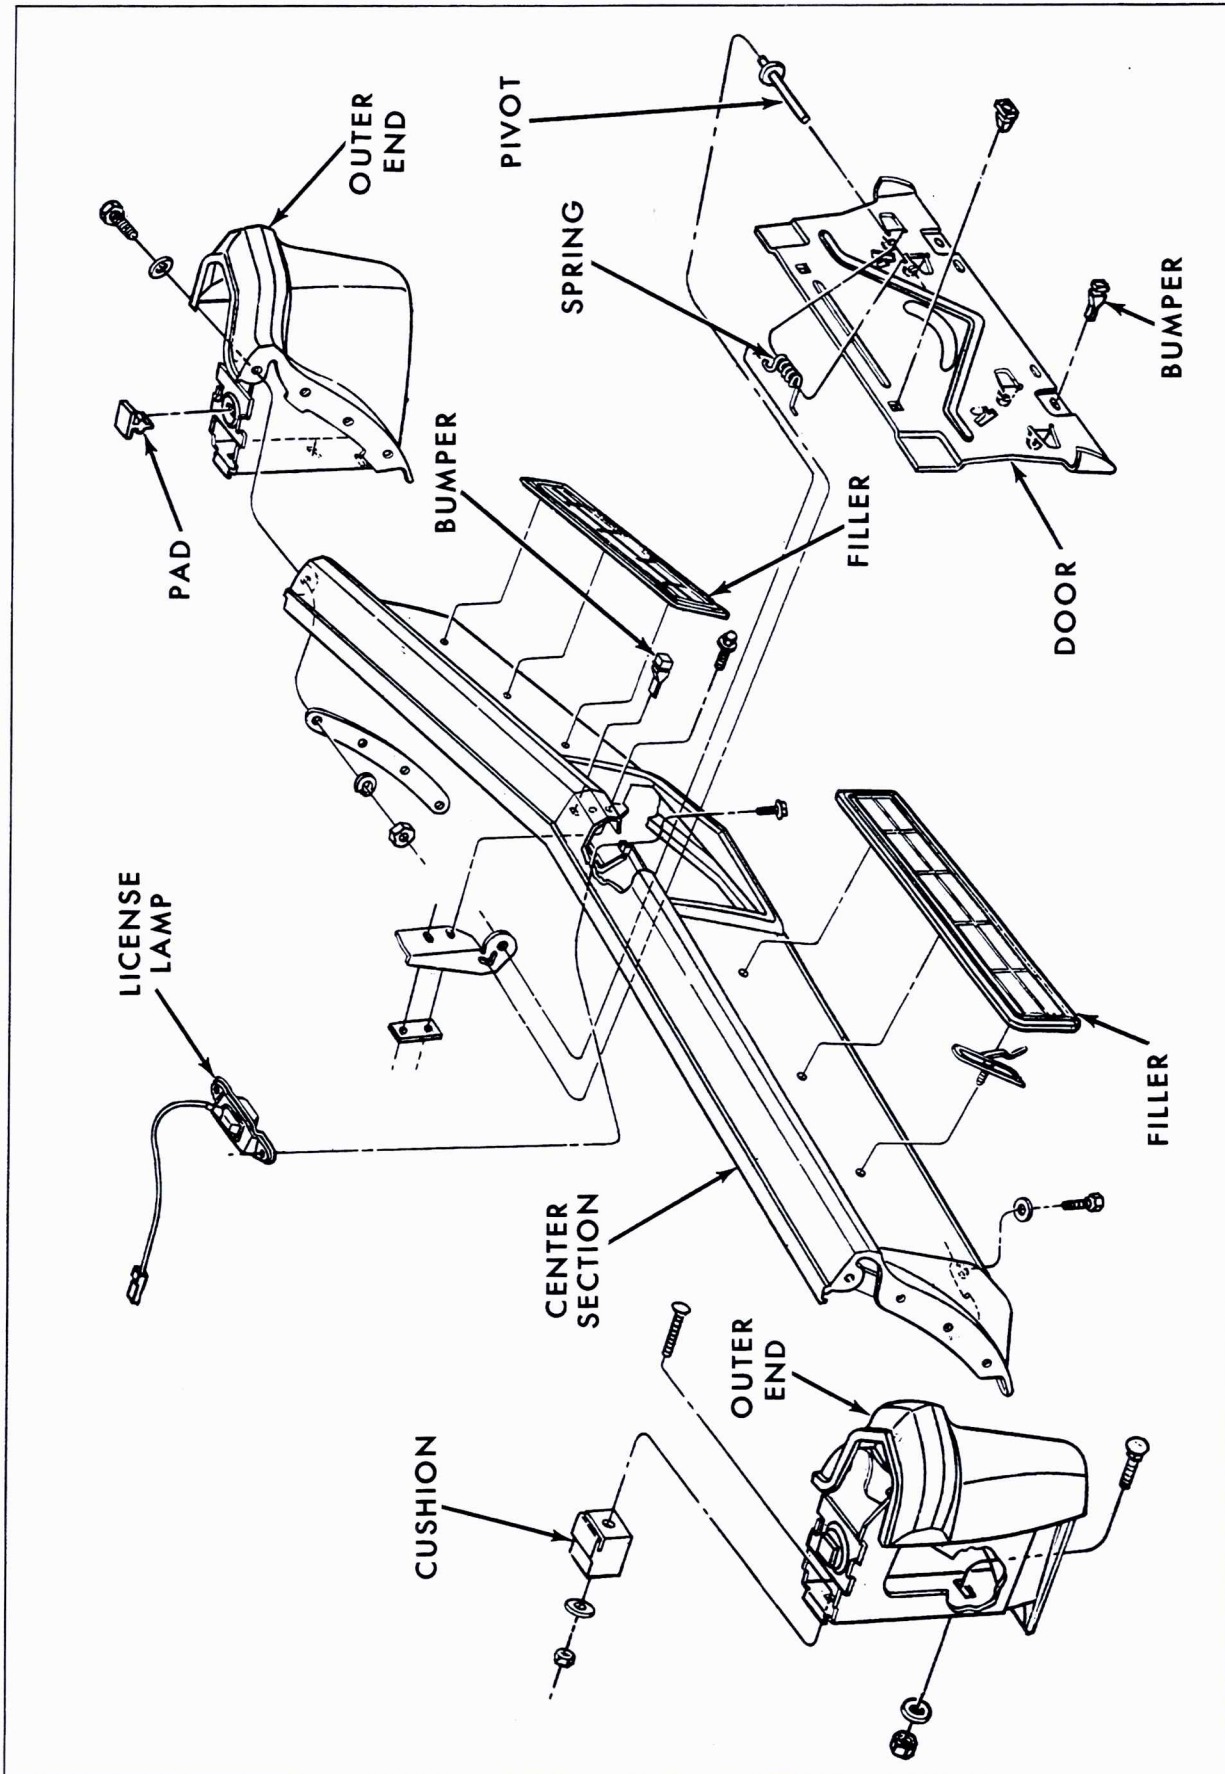

Fig. 14-4 Rear Bumper Disassembled
a. Removal (Fig. 14-4)
b. Installation (Fig. 14-4)